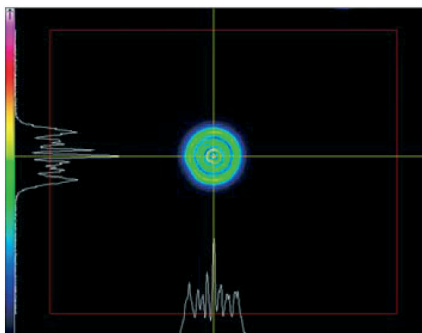

Figure 11. Setting symmetric diffraction pattern.
h. By using **Tilting only (θ_x ; θ_y)** get symmetric diffraction pattern that is centered with the crosshair (fig. 11).